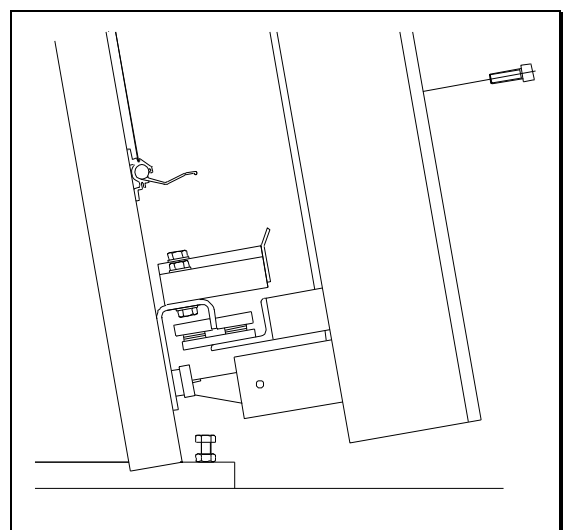

Figure 9
- 1 Remove the protruding bolt at the bottom side of the track (Figure 9).